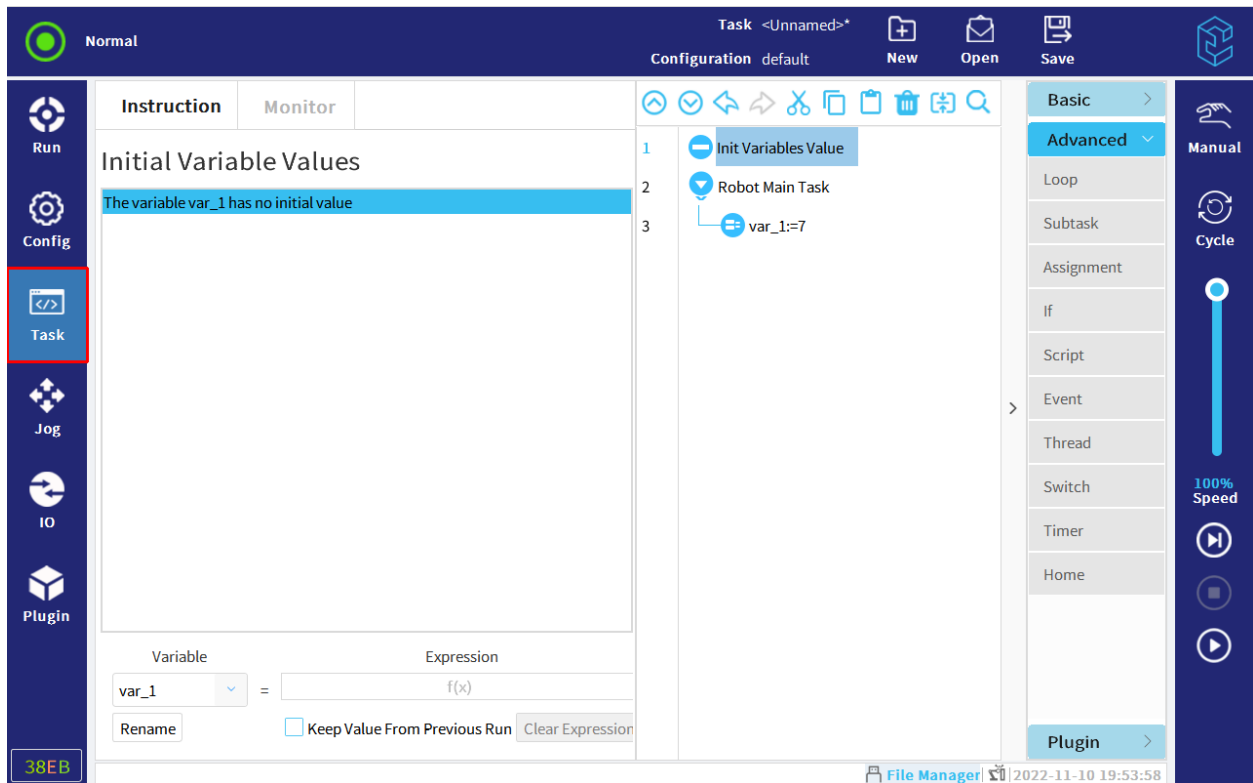

Figure 12-5 Select initial variable interface
1. The user can select a variable from the "Variable" drop-down list or from Initial Variable Values selector box, as shown in Figure 12-5.